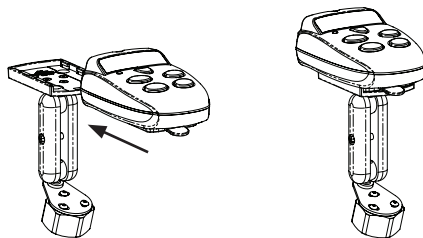

Figure 4
6. Slide the Main Console (sold separately) onto the *Mounting Plate* as shown in **Figure 4**.